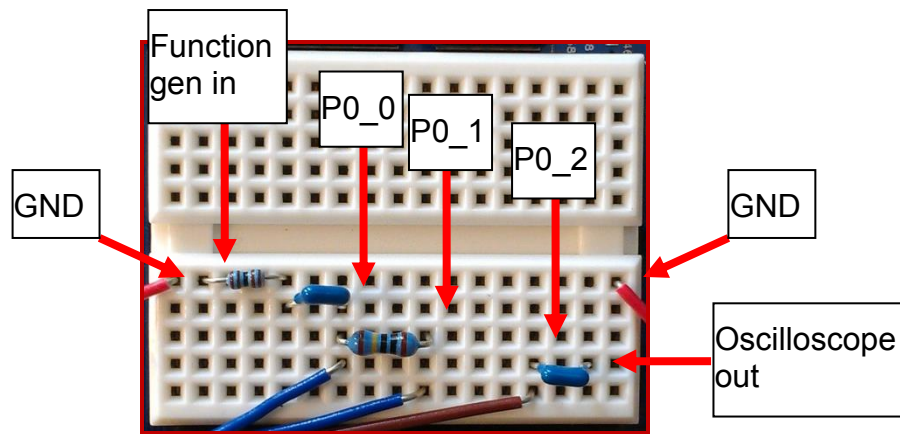

Figure 1. Breadboard setup
2. Set up the passives used in the schematic as shown in Figure 1.